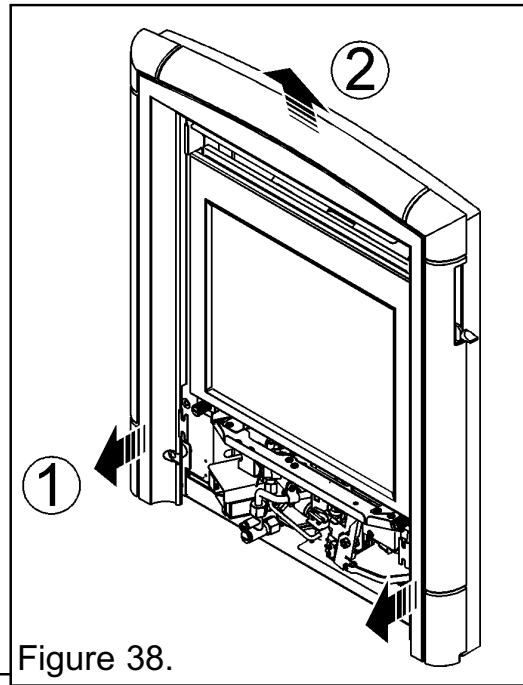

Figure 38.
3. Carefully lift the fascia upward to clear the upper support bracket on the convection box (See figure 38). Pull the fascia clear and place carefully aside.